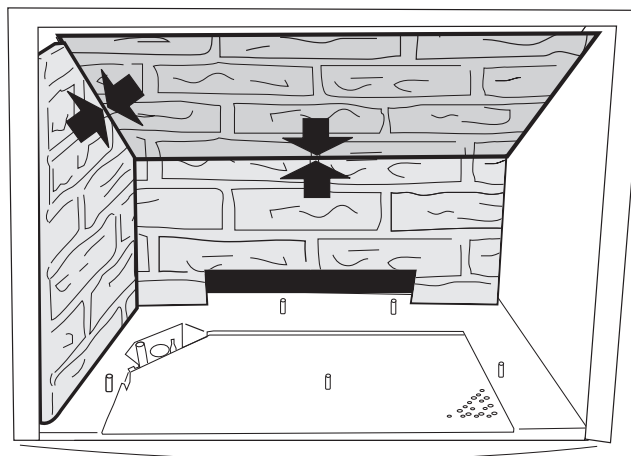

Figure 34. Install the Upper and Side Panel.
Set the Upper Panel on the Lower Panel, so that the mortar joints align with those on the adjacent panels. Hold it in place while setting the opposite Side Panel against the wall. Fig. 34.
3. Adjust the Upper Panel. You should seat the Upper Panel down and forward so that no gaps are evident at the panel joints, as indicated by the arrows in Fig. 34.